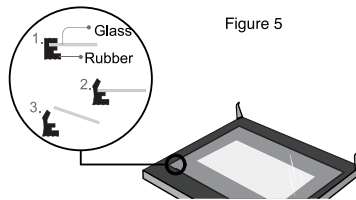

Figure 6
6. After pulling out the inner glass, please take out the middle layer glass as shown in Figure 6. (Figure 6)